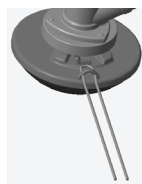

Fig. 17
4. Push the center of the "U" shape through the wire loop. (Fig. 17)